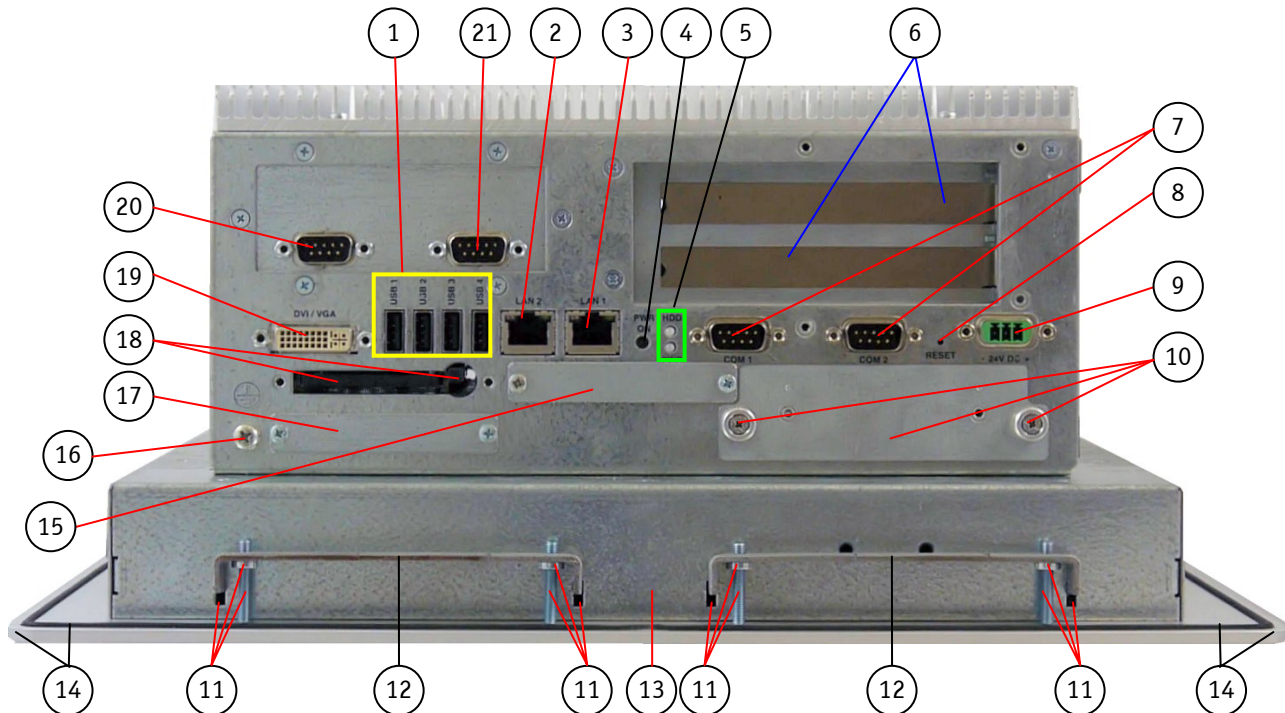
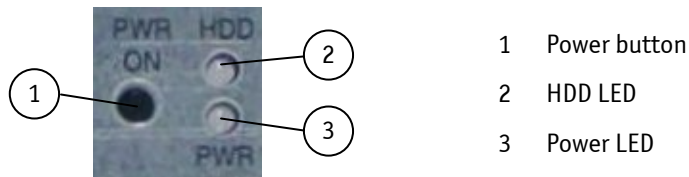
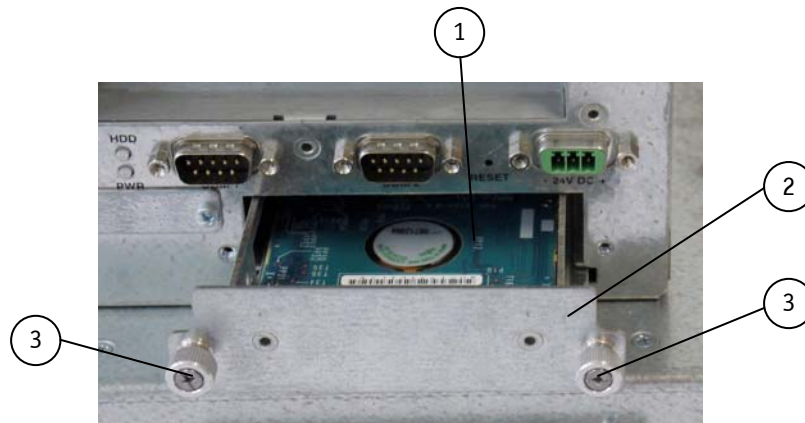

Fig. 8: V Panel Express (interface side)
Fig. 10: Power button and LED indicators
Fig. 12: Detail with drive tray for SATA HDD (shown with opened removable HDD drive tray)
The serial interface marked "COM4" (Fig. 8, pos. 21) is an option and can be ordered as RS232, RS422 or RS485 interfaces (isolated or non isolated). Only factory configuration is possible.
The V Panel Express 121/150/170/190 system will be secured into an instrument panel or a cabinet with two mounting clamps on the bottom side [refer to (Fig. 8, pos. 12)].
The V Panel Express system is supplied with the 3-pin Phoenix power connector terminal (Fig. 32). The DC Power connector (Fig. 8, pos. 9 and Fig. 9) provides the power connection of the V Panel Express system to the main power source via a DC power cable (not included) or the AC/DC adapter (not included; refer to the subsection 6.1.1 “Optional Parts”). For pin-assignment of this connector refer to the section 13.1 “Power Connector”.
The power button “PWR ON” (Fig. 10, pos. 3) is located on the bottom side of the system (Fig. 8, pos. 4).
The chassis of the V Panel Express system must be grounded by establishing a **large-area contact** between the grounding screw M4x19 (DIN7985) with 2x lock washer M4 (DIN6797) (Fig. 8, pos. 16), and an appropriate grounding connection point. The minimum cross section of the grounding conductor is 1mm² (AWG 18).
The V panel Express is equipped with two LED indicators (Fig. 10, pos. 2 and 3) (bottom, rear side, Fig. 8, pos. 5).
The power LED (Fig. 10, pos. 3) shows the on/off state of the system and four important malfunction conditions of the system:
The V Panel Express is equipped with a bottom side accessible CompactFlash™ slot with eject button (Fig. 8, pos. 18). The CF slot will accept only CF cards type I. The second CF slot (Fig. 8, pos. 15) is not equipped.
CF slots (CF1 or CF2 or both) without installed CF card are covered by a slot cover as shown in Fig. 8, pos. 15.
The system is equipped at the front side with 4x USB 2.0 interface connectors (Fig. 8, pos. 1). These connectors provide connections for USB-compatible devices.
The DVI-I interface (Single Link) (Fig. 8, pos. 19) supports both digital and analog connections. Digital devices can be connected directly to this interface of the V Panel Express. Analog devices should be connected to this interface via a DVI to VGA adapter (not included).
These serial interfaces (Fig. 8, pos. 7 and 21) (RS232 connections) are available as 9-pin D-SUB plugs and provide connection for serial devices. For the optional COM 4 port (Fig. 8, pos. 21) can be ordered a configuration as RS 232, RS422 or RS485 (isolated or non isolated).
The serial interface marked “COM4” (Fig. 8, pos. 21) is an option and can be ordered as RS232, RS422 or RS485 interfaces (isolated or non isolated). Only factory configuration is possible.
These interface connectors (Fig. 8, pos. 2 and 3) are provided as RJ45 sockets with integrated LEDs. The data transfer rate depends on the installed ETXexpress module (see below):
The V Panel Express can be equipped with a removable drive tray (Fig. 8, pos. 10) for up to two 2.5" SATA HDDs. The drive cage is secured to the system with a knurled screw; (refer also to detail shown in Fig. 12).